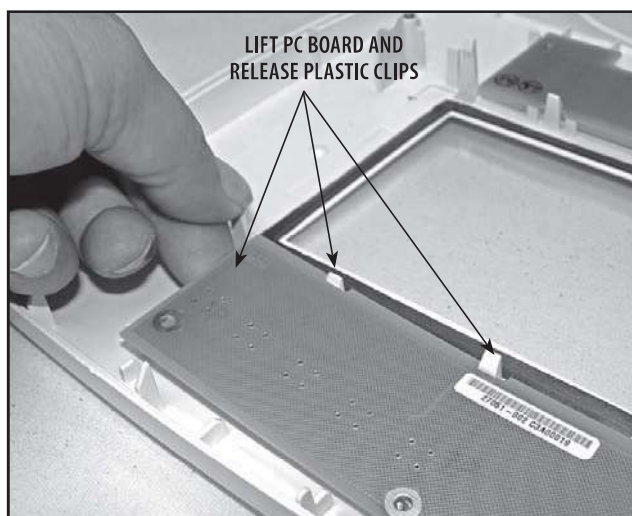

FIGURE 6.29
5. Starting at the top of the Keymat PC Board, lift board with one hand, push in and release the plastic clips holding the Keymat PC Board in position. **See Figure 6.29.**